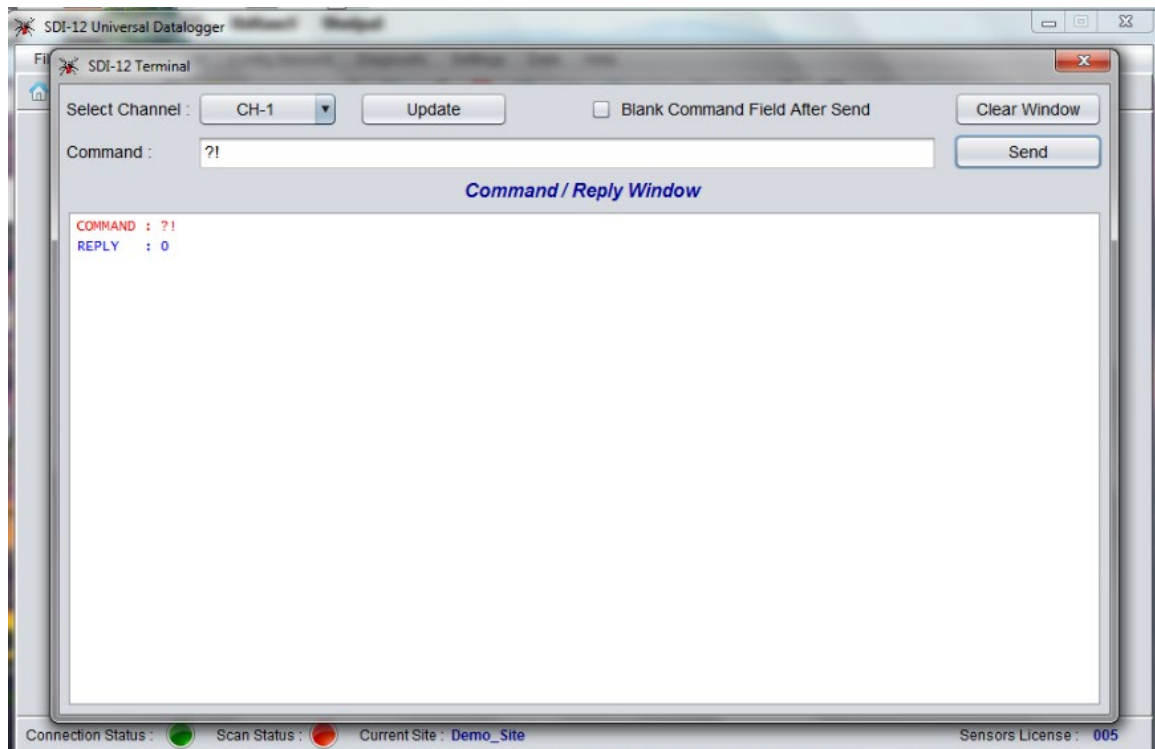

Figure 7-10 Command/Reply Window
- 9 Now type “?! ” on the “Command” bar and click “Send” to read the sensor’s present address (figure 7-10).